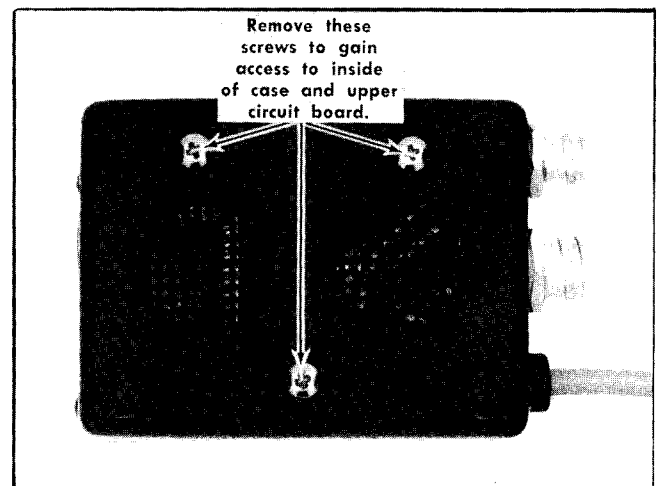

Fig. 6-1. Screw removal for Speedcomputer.
- Remove the three screws indicated in Fig. 6-1 from the rear of the speedcomputer case.